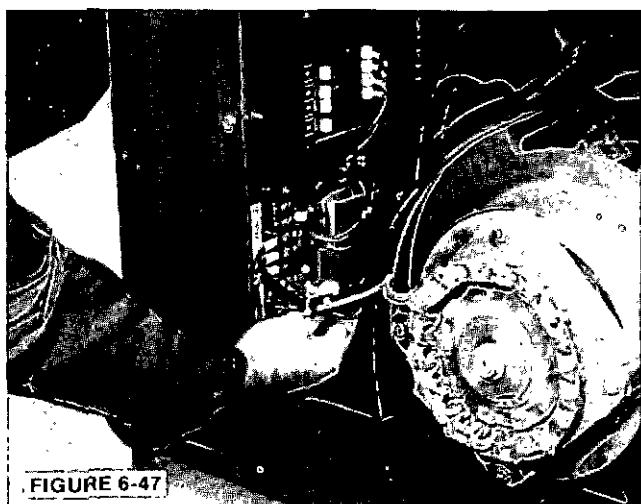

FIGURE 6-47
4. Reconnect exciter leads, PMG leads and other accessories according to the connection prints and markings installed before disassembly. (See Figure 6-47 and connection diagram.)